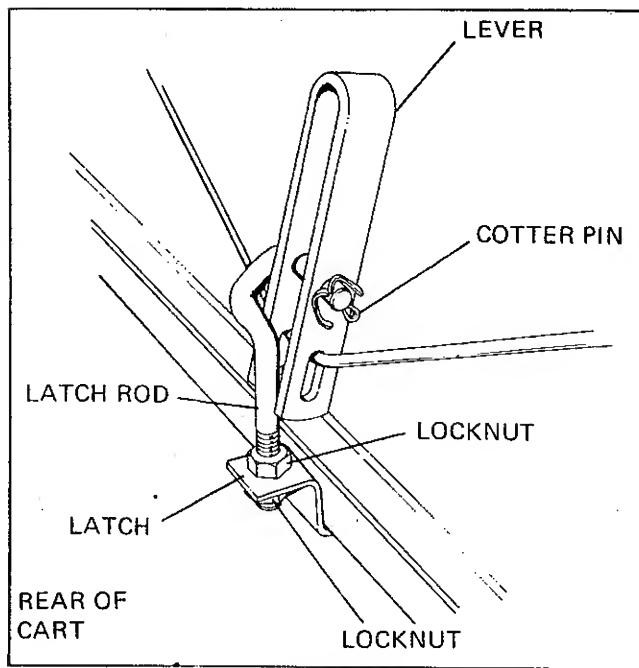
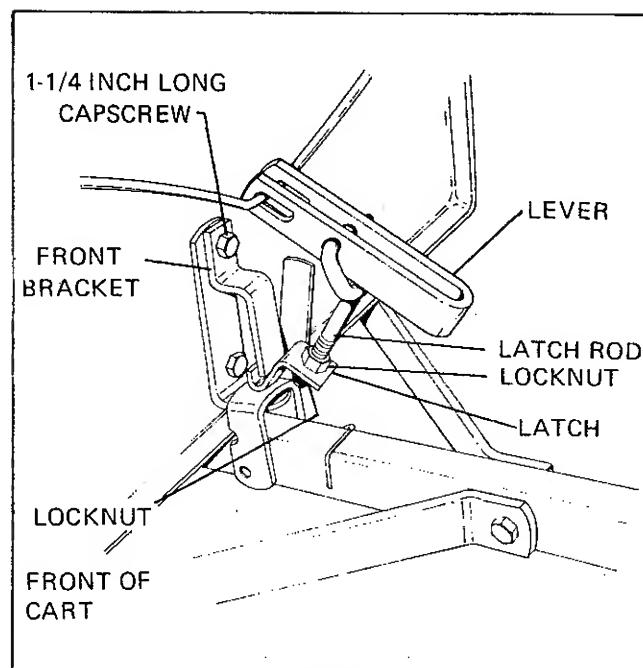

FIGURE 20
FIGURE 21
- Secure bracket to front of cart with 1-1/4 inch long capscrew (Figure 21).
- Insert rear latch rod through lever holes and secure it with a cotter pin (Figure 20). Install locknut, latch, and locknut on latch rod. With lever in closed position, adjust latch until it is securely hooked under cart. Repeat procedure for front side with latch tight under bracket (Figure 21).